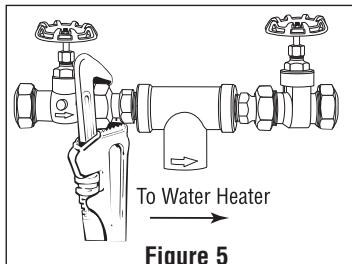

Figure 5
5. Tighten all compression nuts firmly, keeping the AP430SS head assembly vertical. (Figure 5)